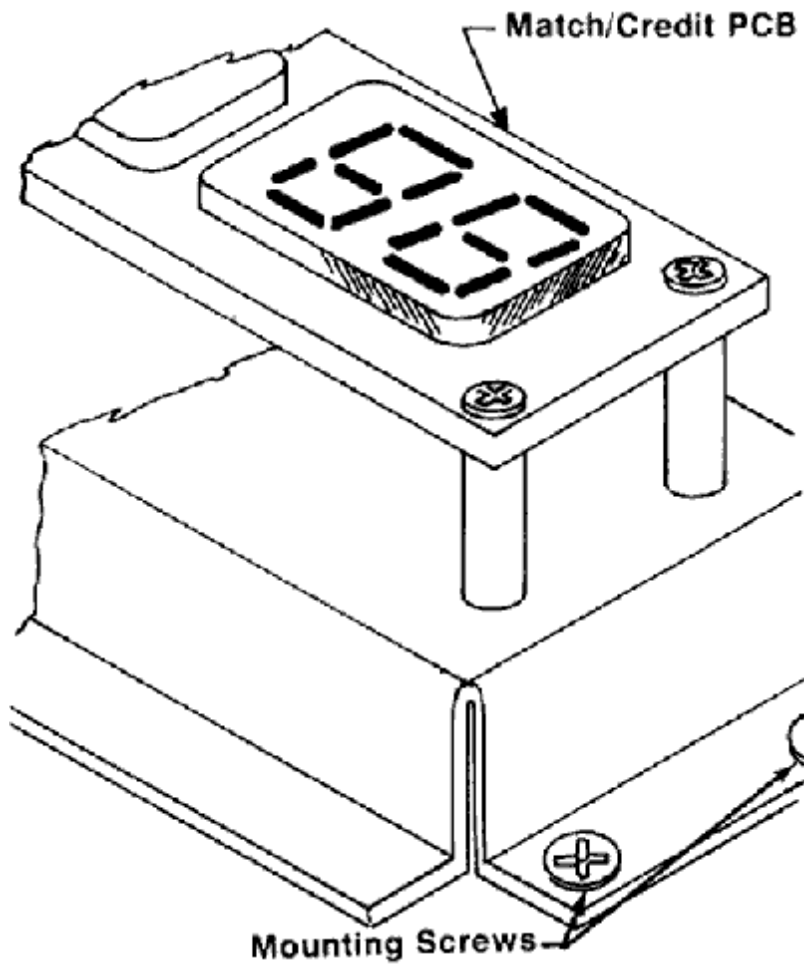

Figure 20: Lower Right Corner of Display Assembly
1. Lower the assembly down into its final position and line up the four mounting holes with their mating holes in the playfield. Be careful not to pinch the lamp wires that are routed through a slot at the lower right corner of the assembly (refer to Figure 20).